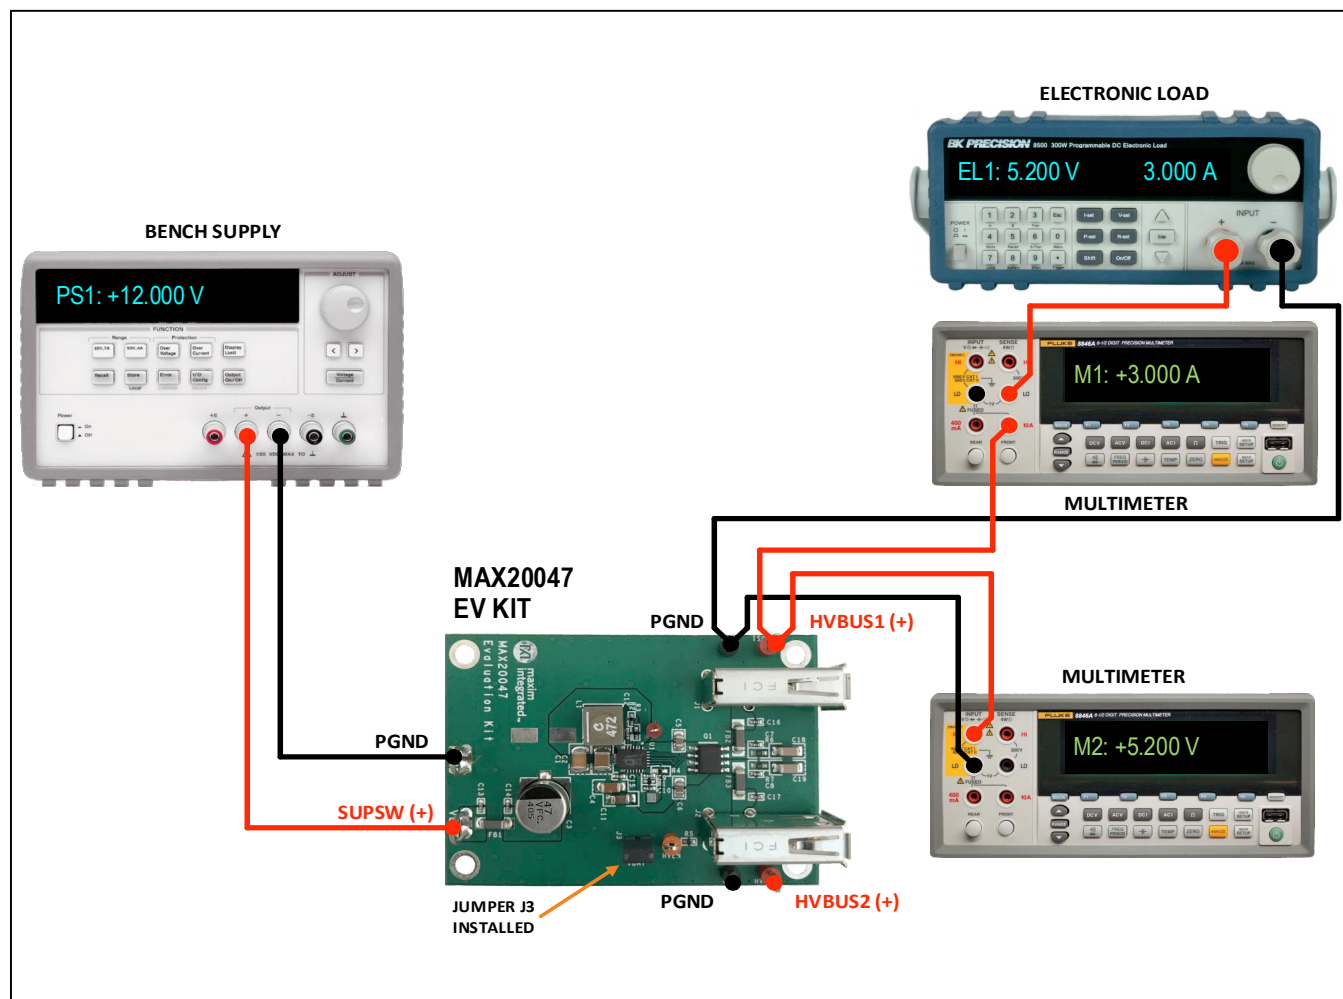

Figure 5. Test Setup for Testing DCP Current Limit
The VBUS current limit for both USB ports are factory configured for 3.3A, which can be changed to 2.75A, 2.41A, or 2.1A by selecting a different R_{ILIM} resistor. See the Other Configurations section for details on making this selection. Figure 5 shows the test setup to evaluate the IC's VBUS current limit:
- 1) Connect the equipment (see Figure 5), set PS1 to